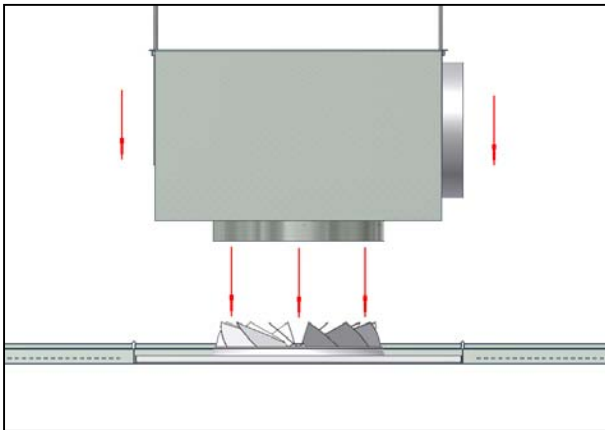
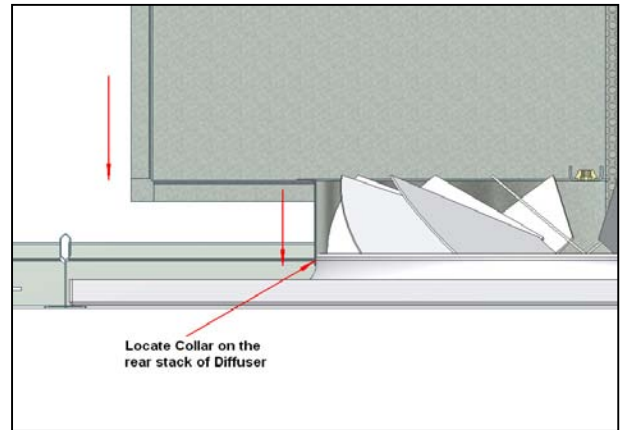

Figure 5: Lower Plenum...
Figure 5a: ...onto rear stack of Diffuser
5. Lower the Plenum Box over the rear stack of the Diffuser (Figure 5). Take care to ensure that the stack is positively located within the Plenum Collar (figure 5a). Do not tighten the Drop Rod lock nuts at this time, as some adjustment may be required.